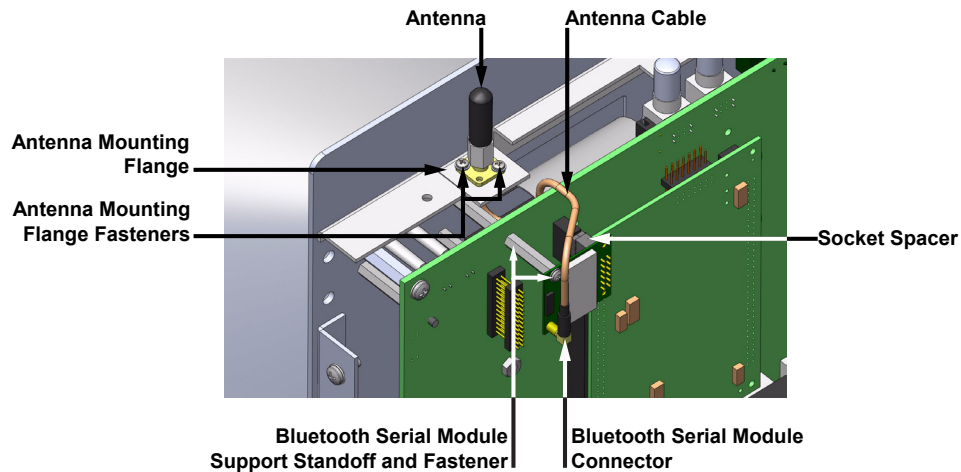

Figure 8-5 Bluetooth Module and Antenna Orientation
4. Install the socket spacer onto the Bluetooth connector slots on the main PCB (Figure 8-5).
7. Insert the antenna wire connector end into the antenna mounting flange and route the wire to the Bluetooth Serial Module (Figure 8-5). Plug the antenna connector into the module's connector.
8. Secure the antenna with two 2-56 x 1/4 screws and lock washers into the captured fasteners (Figure 8-5).